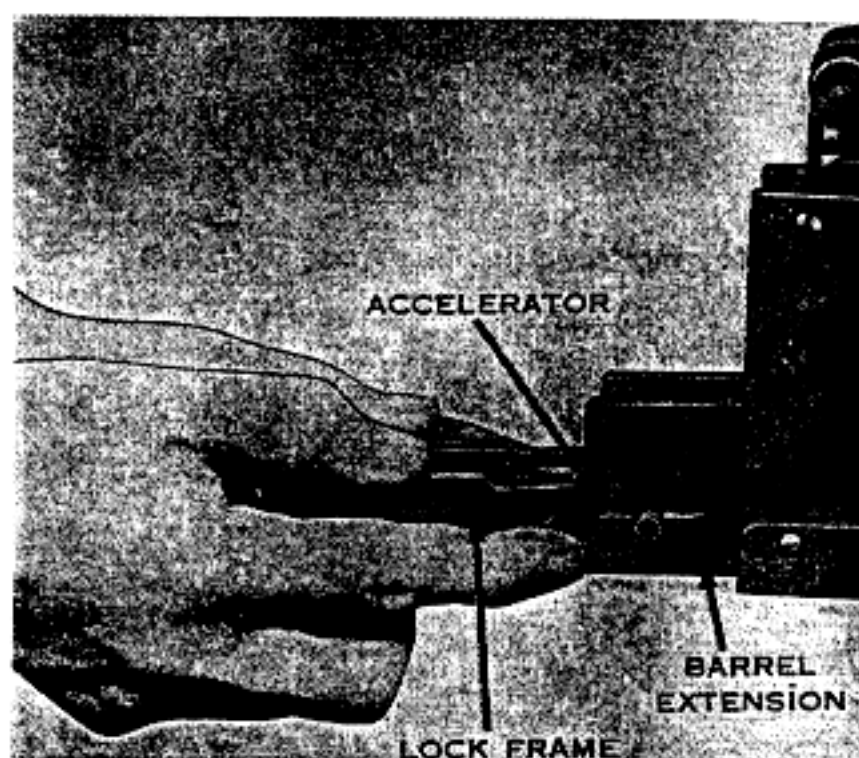

Figure 24. Assembling the lock frame to the barrel extension.
- (1) Hold the lock frame in both hands keeping the claws of the accelerator in front of and against the T-lug on the barrel extension with the forefingers (fig. 24).
- (2) Start the front projections of the lock